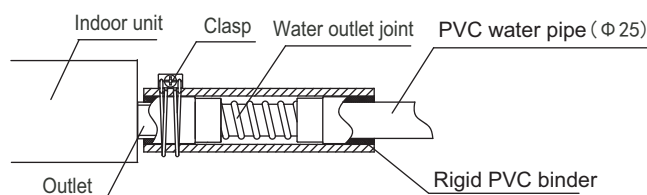

Fig.8-1
- Please use the accessory drain hose to connect the outlet of indoor unit with the PVC water pipe, and then use the accessory the clasp for chucking (Refer to Fig.8-1).